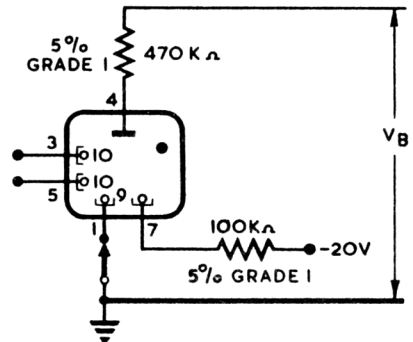
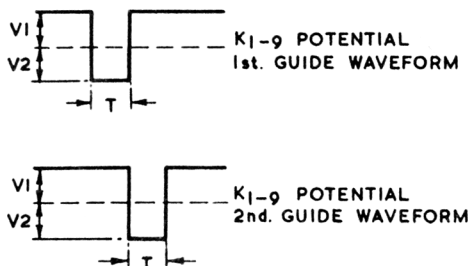
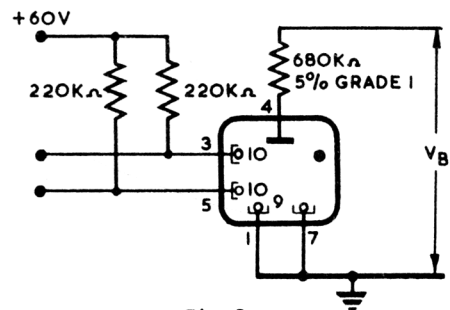

Fig. 3
Fig. 4
Fig. 5
2. The tube shall scale without error the first applications of test signals (illustrated in fig.4 on page 4). Test signals are to be applied for at least 1/10th second. The test circuit of fig.3 page 4 is applicable.
5. The valves selected for this test are to be run in the circuit shown in fig.5 page 4. One application of the pulses shown in fig.4 page 4 is to be made every 85 ± 5 hours. The tube is to receive 20 such pulses and then be removed. A valve which fails to step on the application of the test pulses shall be rejected. The normal guide bias is to be +60V which will be reduced to +35V immediately prior to the application of pulses.